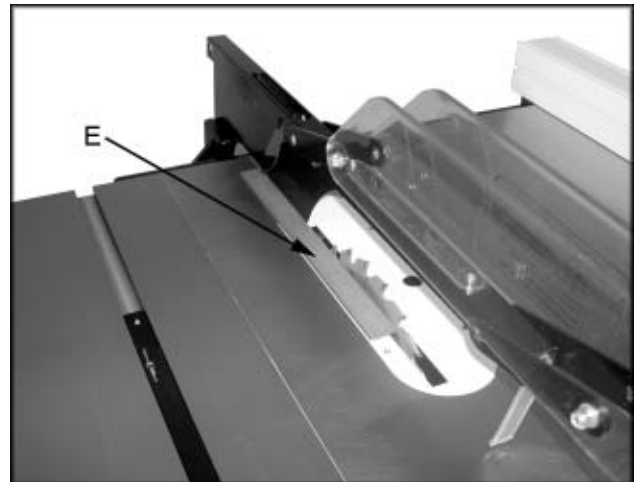

Fig. 19
1. Use a straight edge (E, Fig. 19) to align the splitter with the saw blade. Be sure the straight edge rests against body of saw blade and not saw teeth.